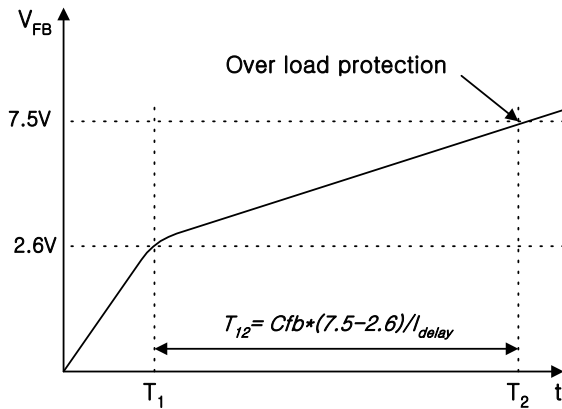

Figure 4. Over load protection
**3.2 Over Load Protection (OLP) :** Overload means that the load current exceeds a pre-set level due to an abnormal situation. In this situation, protection circuit should be activated in order to protect the SMPS. However, even when the SMPS is in the normal operation, the over load protection circuit can be activated during the load transition. In order to avoid this undesired operation, the over load protection circuit is designed to be activated after a specified period to determine whether it is a transient situation or an overload situation. Because of the pulse-by-pulse current limit capability, the maximum peak current through the SMPS is limited, and therefore the maximum input power is restricted with a given input voltage. If the output consumes beyond this maximum power, the output voltage ( $V_o$ ) decreases below the set voltage. This reduces the current through the opto-coupler diode, which also reduces opto-coupler transistor current increasing  $V_{fb}$ . If  $V_{fb}$  exceeds 2.6V, D1 is blocked and the  $5\mu A$  current source starts to charge  $C_{fb}$  slowly compared to when the  $0.9mA$  current source charges  $C_{fb}$ . In this condition,  $V_{fb}$  continues increasing until it reaches 7.5V, and the switching operation is terminated at that time as shown in figure 4. The delay time for shutdown is the time required to charge  $C_{fb}$  from 2.6V to 7.5V with  $5\mu A$ . When  $C_{fb}$  is 10nF (103),  $T_{12}$  is approximately 9.8ms and when  $C_{fb}$  is 0.1 $\mu F$  (104),  $T_{12}$  is approximately 98ms. These values are enough to prevent SMPS from being shut down during transient situations.